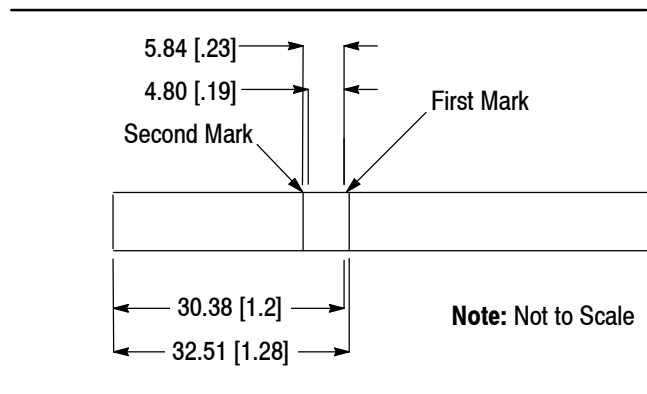

Figure 3
3. Mark the end of the cable for stripping. See Figure 3.